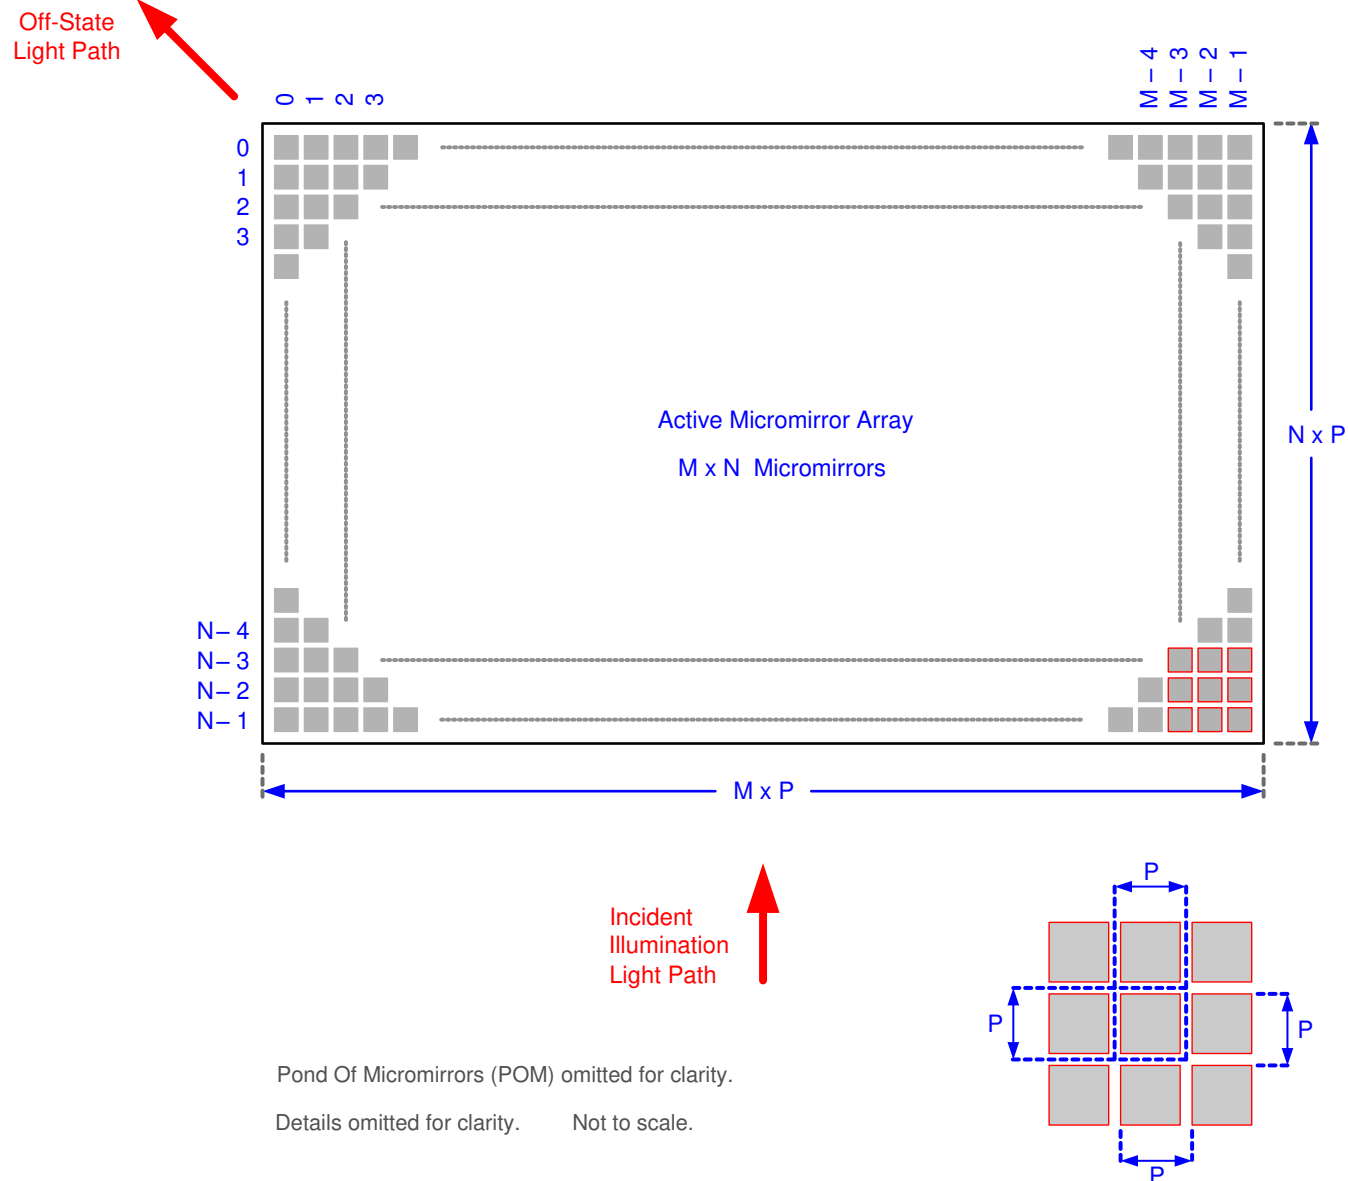

Figure 5-8. Micromirror Array Physical Characteristics
(1) See Figure 5-8.
(2) The structure and qualities of the border around the active array includes a band of partially functional micromirrors referred to as the pond of micromirrors (POM). These micromirrors are prevented from tilting toward the bright or "on" state but still require an electrical bias to tilt toward "off."